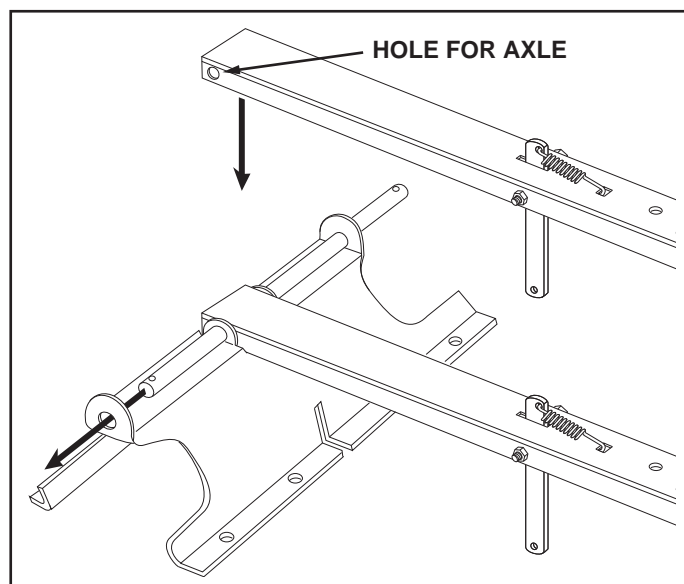

FIGURE 3
- Assemble the rear tongue to the wheel support by sliding the axle through the holes in the tongue and wheel support as shown in figure 3.